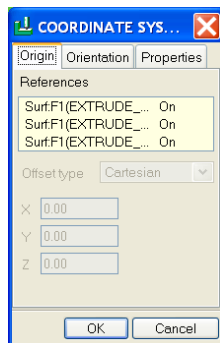

Figure 1.22
1. Insert → Model Datum → Coordinate system. Coordinate system window pop up automatically as shown in Figure 1.22.